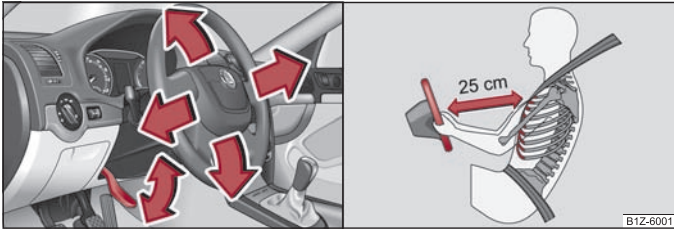

Fig. 83 Adjustable steering wheel: Lever below steering column
- Pull the lever below the steering column down ⇒ fig. 83 - left. Observe the guide-lines ⇒ ⚠.
- **The driver must maintain a distance of at least 25 cm to the steering wheel ⇒ fig. 83 - right. Not maintaining this minimum distance will mean that the airbag system will not be able to properly protect you - hazard!**